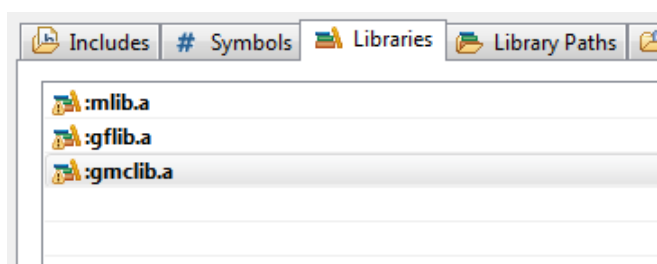

Figure 1-20. Libraries
11. After adding the library paths, add the library files. Click the Libraries tab. See Figure 1-20.
18. Click OK, and you will see the libraries added in the list. See Figure 1-20.